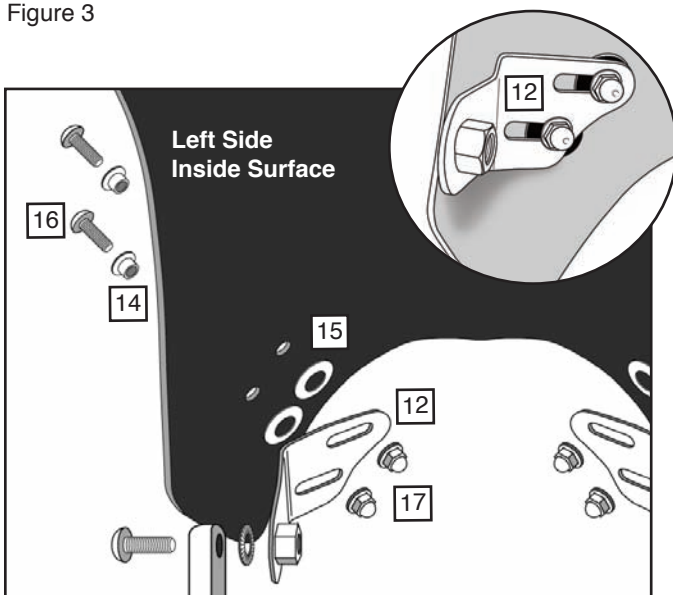

Figure 4
6. Install 1, Washer (15) over each hole in the Screen. **Figure 4**
7. Select the Left Bracket (12) and install to the Left, Inside surface of the windscreen using 2, Collars (14), 2, Screws (16) and 2, Nuts (17) as shown in **(4mm Hex Wrench and 10mm Socket) Figure 4**.